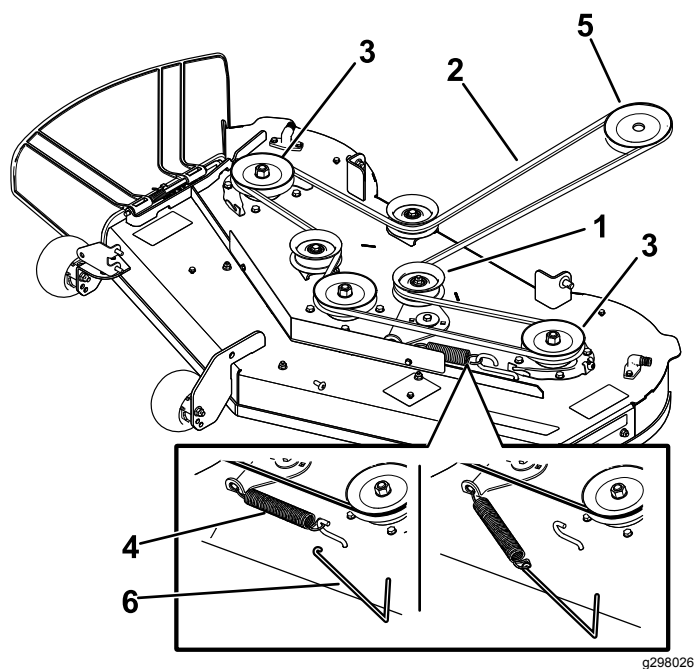

Figure 3
5. Using a spring-removal tool (Toro Part No. 92-5771), remove the idler spring from the deck hook to remove tension on the idler pulley, and roll the belt off the pulleys (Figure 2 or Figure 3).
6. Route the new belt around the engine pulley and mower pulleys (Figure 2 or Figure 3).
7. Using a spring-removal tool (Toro Part No. 92-5771), install the idler spring over the deck hook and place tension on the idler pulley and the mower belt (Figure 2 or Figure 3).